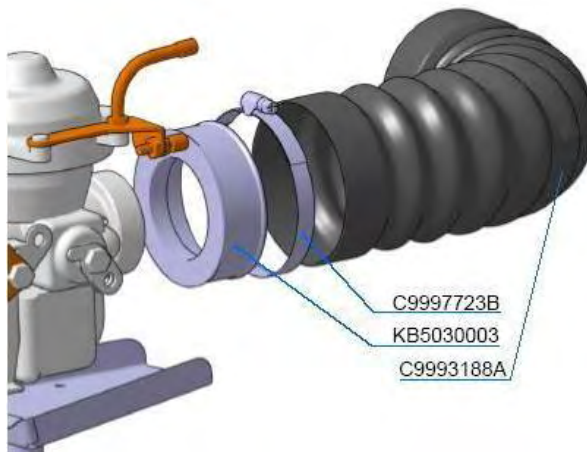
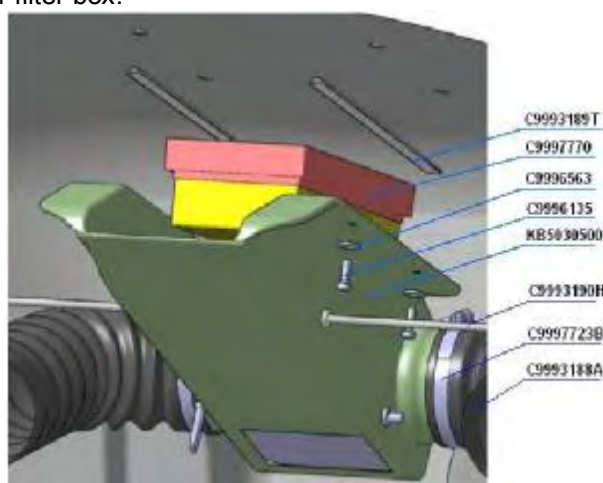

Fig. 2
Fig. 3
- Unscrew the bolt by cross-screwdriver or wrench with header 7. Release the clamp C9997723B (Clamp 60-80) by a screwdriver and disconnect the hose C9993188A (AERODUCT tube CEET-12 3 ID) from KB5030003 (Transitional bush) located near the carburetor (Fig. 2). Repeat for the hose from the other side of KB5030500 (Air filter box). Fig. 3.
- Unscrew the four bolts C9996135 (Bolt DIN 7984-M5x16-8.8) by a hex-nut wrench 4. Fig. 3.
- Unscrew the bolt by cross-screwdriver or wrench with header 7. Release the clamp C9997723B (Clamp 60-80) with a screwdriver and disconnect the hose C9993188A (AERODUCT tube CEET-12 3 ID) from KB5030500 Air filter box. (Fig. 3).
- Repeat item 1 for the second carburetor.
- When the handle is pushed (Fig. 4, a) the choke of KB5030500 Air filter box (Fig. 3) in OFF position.